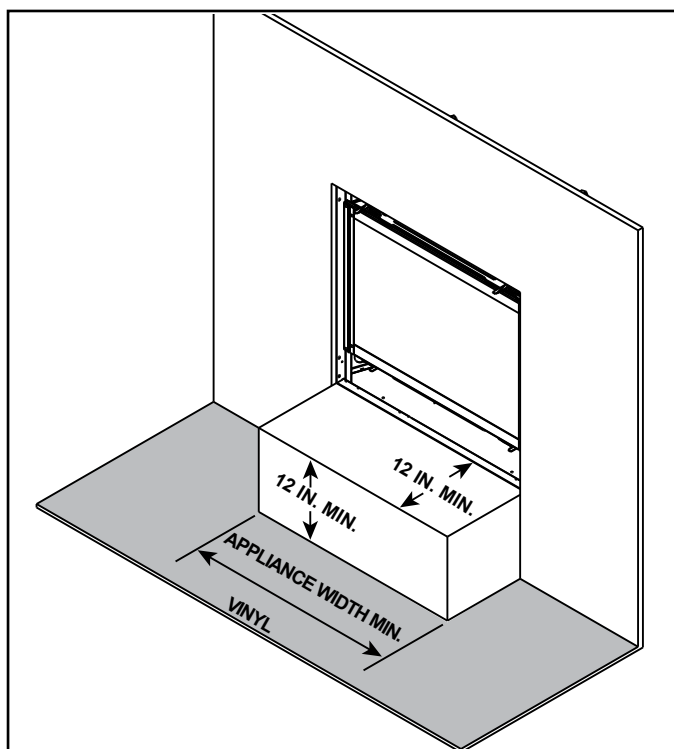

Figure 3.19 Vinyl Flooring Recommendations
- Combustible flooring may be located in front of the appliance. See Figure 3.19 for vinyl flooring recommendations.
Vinyl flooring is sensitive to heat. To avoid damage to the vinyl flooring, a 12 inch minimum x 12 inch minimum hearth is recommended when using vinyl flooring up to the wall. See Figure 3.19. If no hearth is used, it is recommended to provide a minimum of 24 inches of clearance in front of the appliance to the vinyl flooring OR the bottom of the appliance should be raised a minimum of 24 inches off of the floor to allow the vinyl flooring to be installed up to the wall.